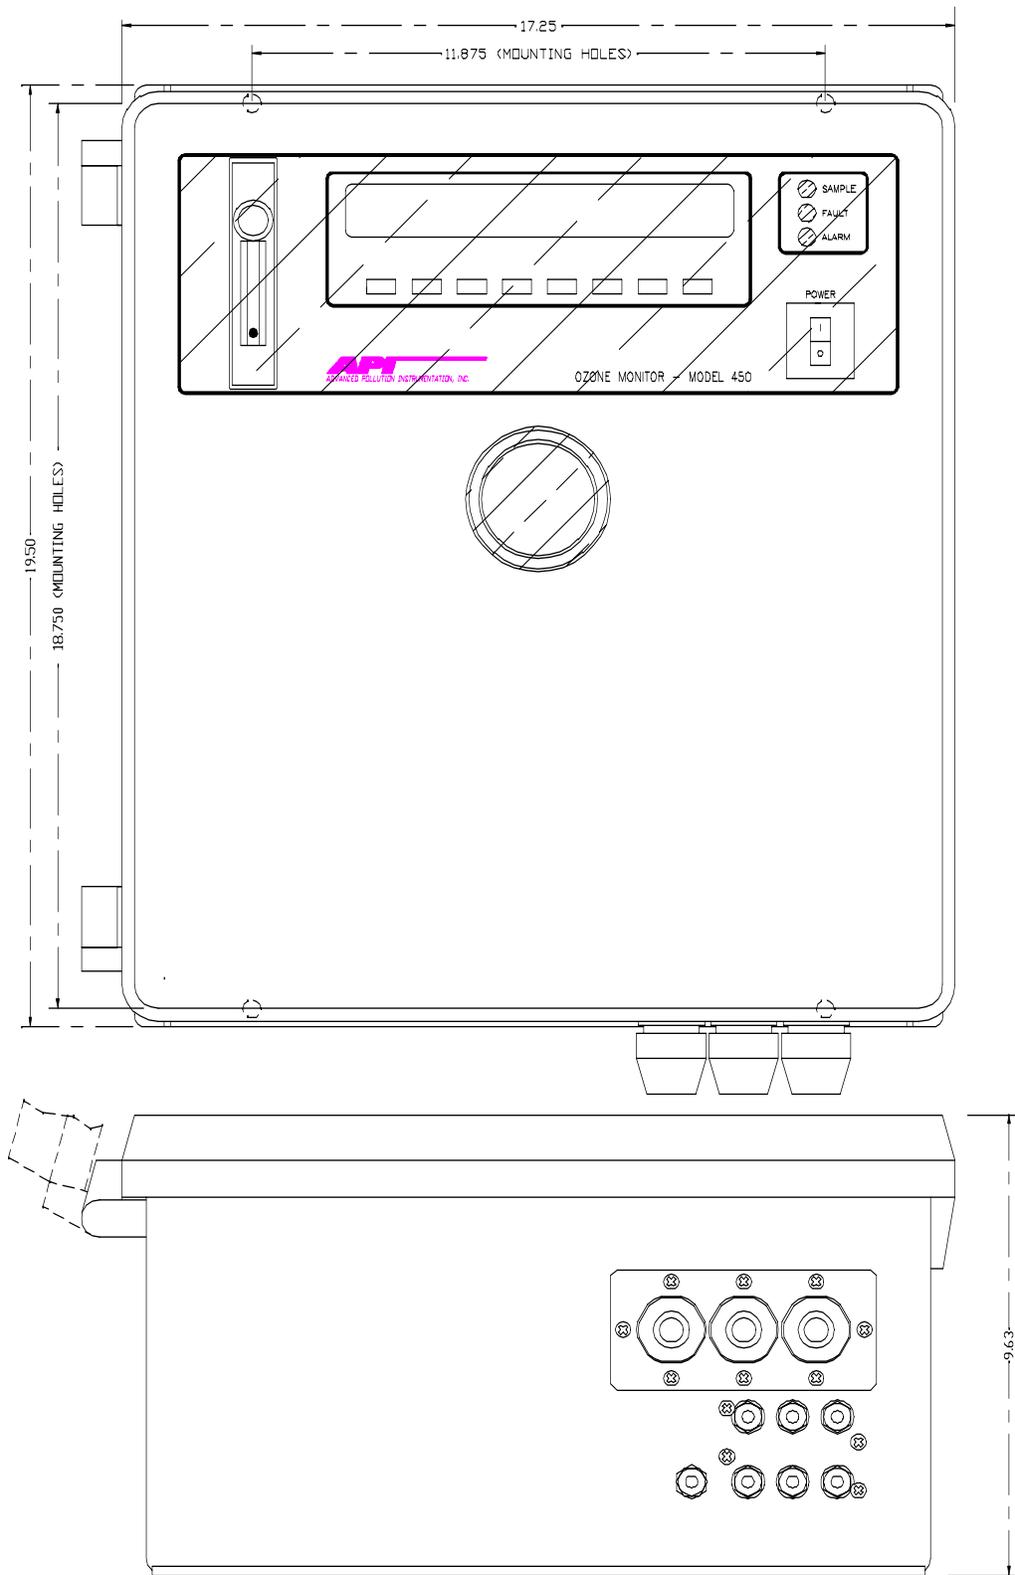

FIGURE 1.2 – NEMA 4X ENCLOSURE DIMENSIONS
2. Mount the NEMA 4X enclosure to a vertical surface using four 5/16" bolts. Mounting hole dimensions are shown in Figure 1.2.